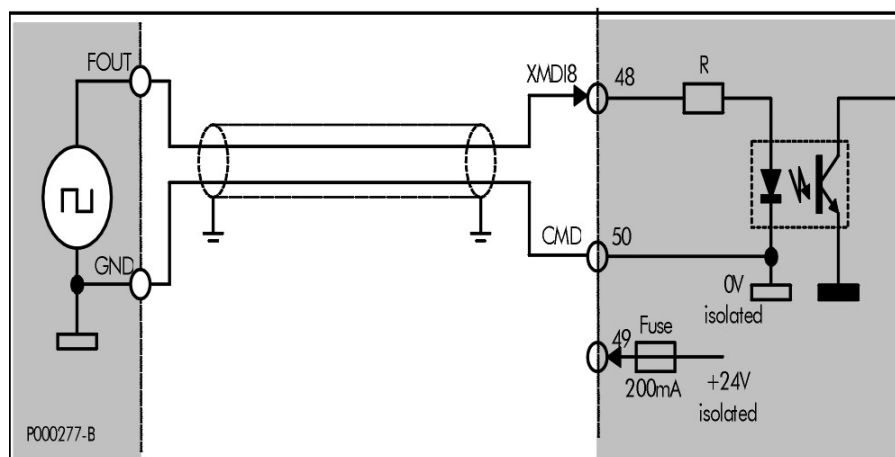

Figure 174: Signal sent from a 24V, Push-pull frequency output
Signals are sent from a 24V Push-pull output with a reference common to terminal CMD (50), as shown in Figure 174).